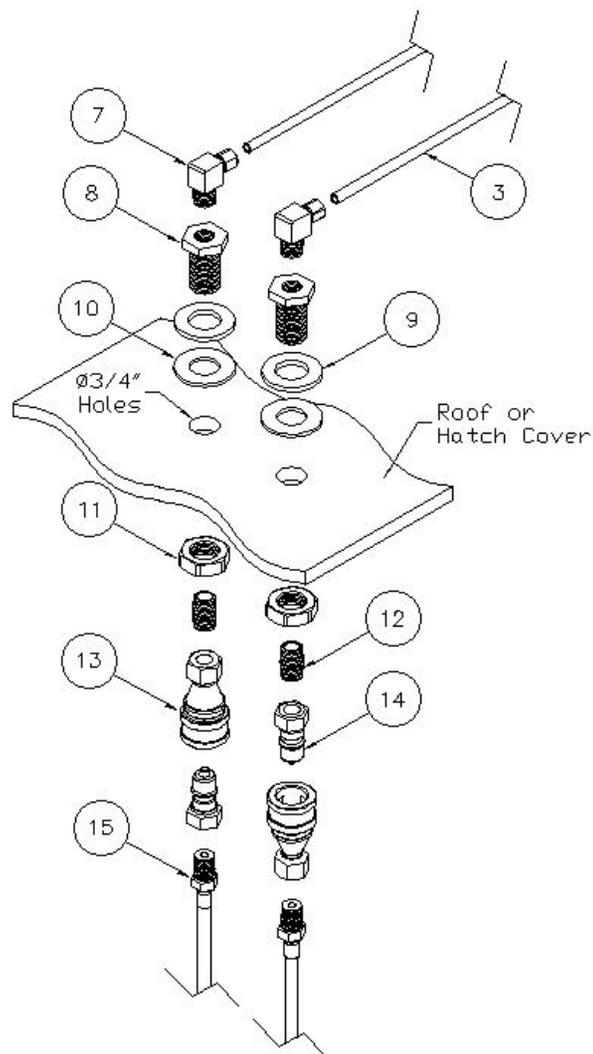

Figure 2
8. Drill two 3/4" holes about 3" apart. When drilling holes in the cover, ensure that the holes are not drilled into the ribs on the underside of the cover and that there is enough room for tightening both brass jam nuts [#11, Figure 2].
9. Assemble the fittings according to Figure 2. Ensure that the rubber washer [#10, Figure 2] is compressed between the steel washer [#9, Figure 2] and the hatch cover or roof. Ensure that one female quick disconnect [#13, Figure 2] and one male quick disconnect [#14, Figure 2] are connected to the 1/4" brass nipples [#12, Figure 2].
10. Thread the 1/8" end of the braided steel hoses [#15, Figure 2] into the cylinder on the Load Diverter. Assemble the other female disconnect [#13, Figure 2] and male disconnect [#14, Figure 2] on the other end. Insert male disconnects into female disconnects